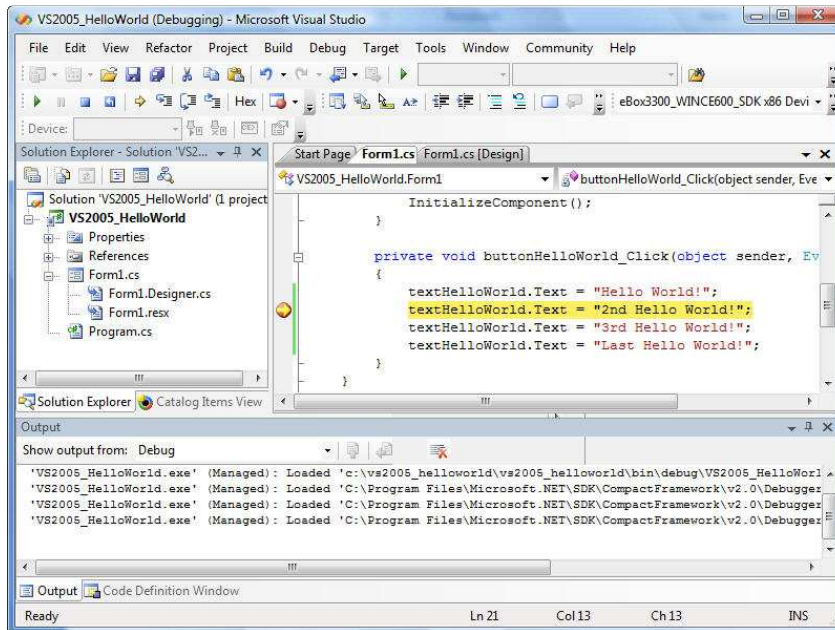

Fig. 47 - Execution halt at the breakpoint
- From the VS2005 IDE on the development workstation, the breakpoint highlight color changed to **yellow**, an indication the program is halt at this line of code, as shown in Figure 47.